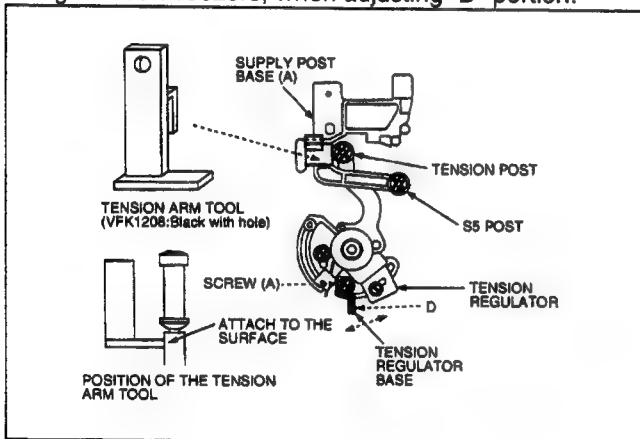

Fig. E14
2. Set VFK1208 (black with hole) on the Supply Post Base (A) as shown in Figure E14.